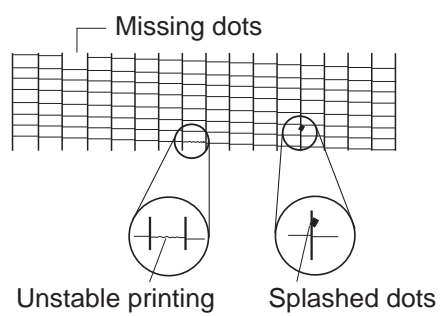

Figure1-2 Defective Pattern (Sample)
Blotches appear Blank ink appear	(1) Remove and reinstall the printhead. (2) Carry out nozzle cleaning on the printhead five times with the cleaning operation, than visually check the test print for non-discharge of ink from nozzle (Fig. 1-2) (3) Perform print head refreshing, and print out Nozzle check pattern. Visually check the test print for non-discharge of ink from nozzle (Fig. 1-2) (4) Replace the appropriate ink tank. (5) Replace the printhead. (6) Check the connection of the carriage ribbon cable and the SPCNT board. (J HD1, J HD2) (7) Replace the carriage unit. (8) Replace the SPCNT board. (9) Replace the purge unit.